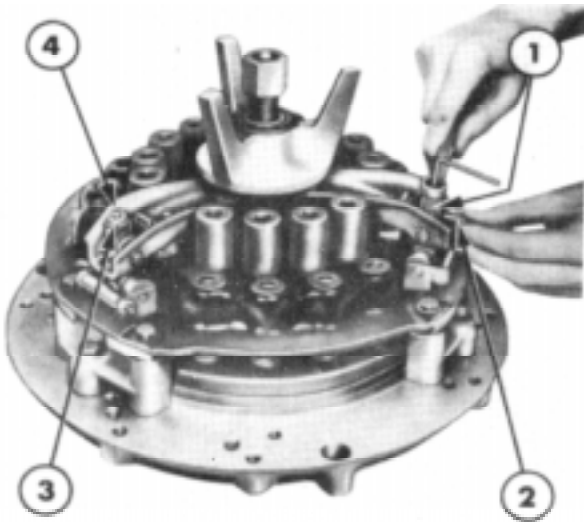

Figure 20
4. Release the spindle locknut and insert the Gauge Pin, Tool No. SW510-7, through each connecting link, Figure 20. Loosen the adjusting screw locknuts and turn each screw to just touch the gauge pin. Tighten the locknuts to the specified torque, see "Specifications".